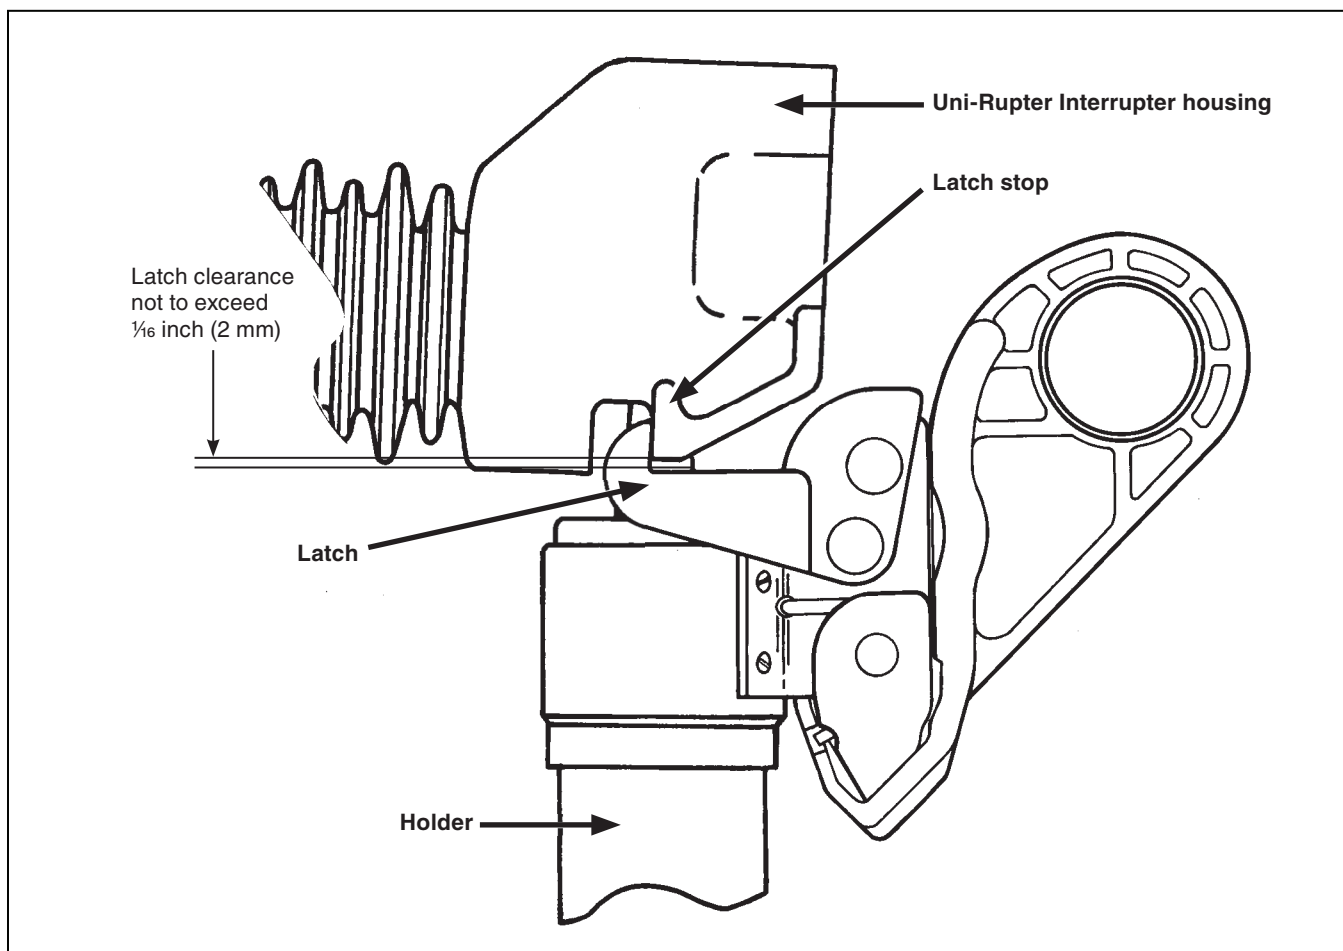

Figure 3. Proper latch engagement.
**STEP 3.** Using a conventional hookstick (or an S&C Universal Pole equipped with an S&C Grappler™ Handling Tool●), operate the holder by moving it from the **Closed** position to the **Open** position and back again. Make sure the holder closes on center (as described in Step 2 on page 8) and that not more than a  $\frac{1}{16}$ -inch (2-mm) clearance exists between the latch stop on the Uni-Rupter Interrupter and the latch on the holder, with the holder in the **Closed** position (see Figure 3). Note that a firm, steady pull with a hookstick is required to open the holder.